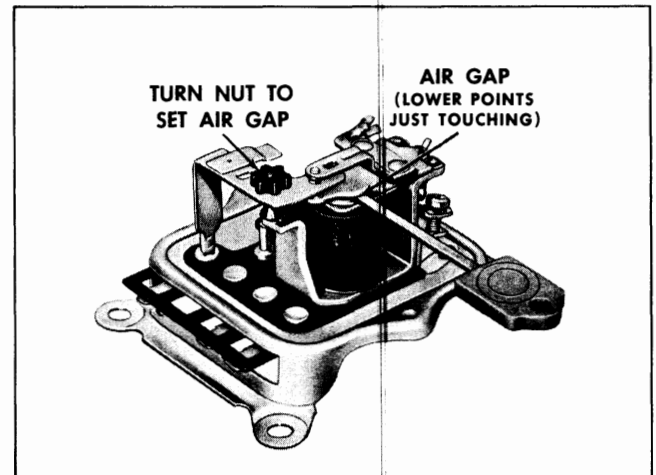

Fig. 11-35 Air Gap Adjustment
10. The difference in voltage between the operation of the upper set of contacts and the lower set is increased by slightly increasing the air gap between the armature and center of core and decreased by slightly decreasing the air gap (see Fig. 11-35) for changing the voltage regulator air gap. If it is found necessary to make this air gap adjustment, it will be necessary to recheck the voltage setting of both sets of contacts.
Air Gap: Measure the air gap with a feeler gauge placed between the armature and core when the lower contacts are touching as shown in Fig. 11-35. If necessary adjust to .057" by turning the nylon nut located on the contact support.